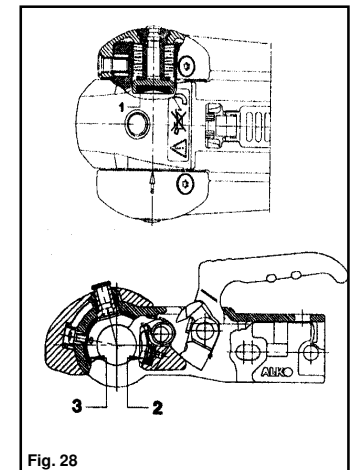

Fig. 28
**Please Note:** The friction pads (Fig. 28/Items 1,2&3) are pressed against the towball and hence generate a stabilising/damping force. These pads are therefore subject to wear over time, however they will have a long service life (circa.30,000 Miles), provided they are well maintained and kept free of grease/dirt.